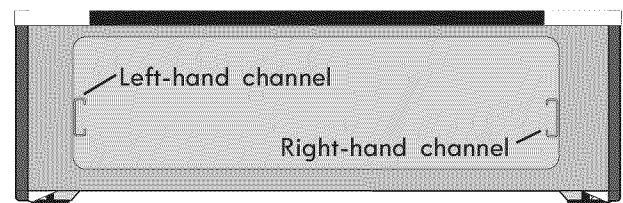

Figure 31: Channel alignment
2. Carefully line up both sides of the warmer drawer glide rails to the outer compartment glide channels located inside the empty warmer drawer compartment (See Figure 31).